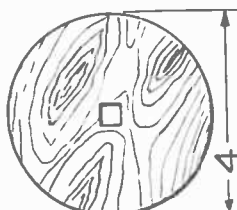
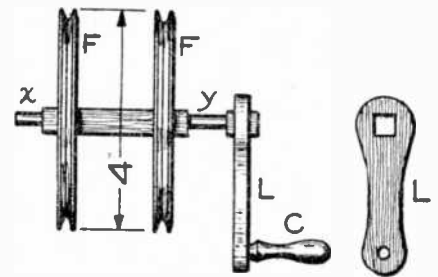

FIG 16
FIG 15
This part comes directly under the shaft of the discs. The shaft, Fig. 16, is
made of a wooden rod about 1/2-inch square and nearly 3 1/2 inches long, and has two rounded portions, (z) and (y), which fit the journals of its standards, shown in Figs. 7a, 8 and 14. The crank arm (L), Fig. 15, is cut out with a compass saw from wood and has a square hole to fit the shaft to which it is glued and if necessary wedged. A nicely smoothed handle (O) is secured by a screw in the other end of it. The two belt wheels (F) and (F), Fig. 16, can be sawed out of thin wood and a groove must be filed all around their periphery so as to receive the belts. These wheels have a diameter of about 4 inches and are 1/4 to 3/8-inch thick. Each must come exactly under the corresponding belt wheels on the shaft of the discs. The piece thus made is dropped into its bearings and all is ready for the belts.